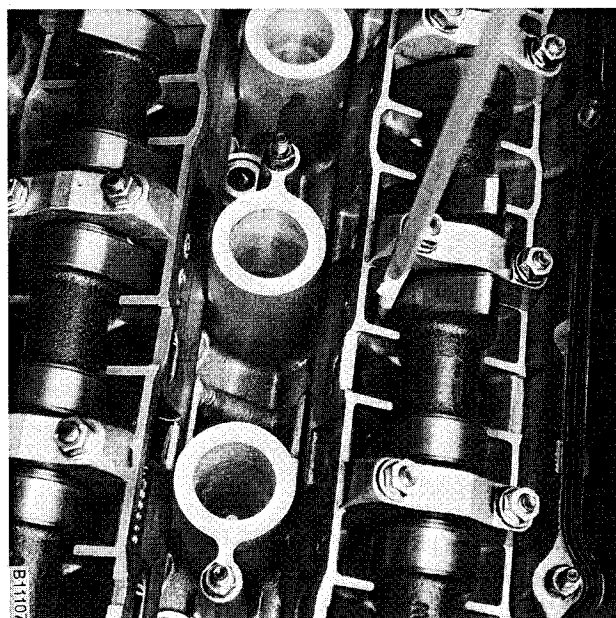

Fig. 15. Hydraulic cam follower in M52 engine being checked. Note that camshaft lobe is pointing up.
3. Use a plastic or wooden stick to press down on top of cam follower. See Fig. 15. If there is any noticeable clearance, the follower is faulty and should be replaced.